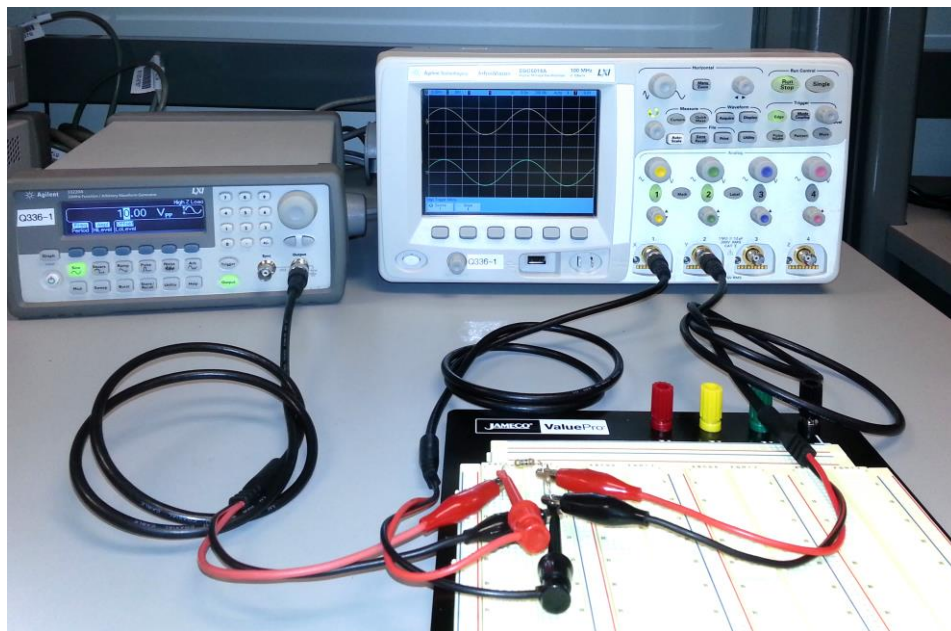

Fig. 16. Voltage divider setup.
- The completed setup should look like the one in Fig. 16. All black leads *must* be connected to the same node, in this case the bottom of R2. Fig. 17 is a close-up of the connections on the breadboard. Fig. 18 shows how you can make connections to components less cluttered with a short jumper wire.